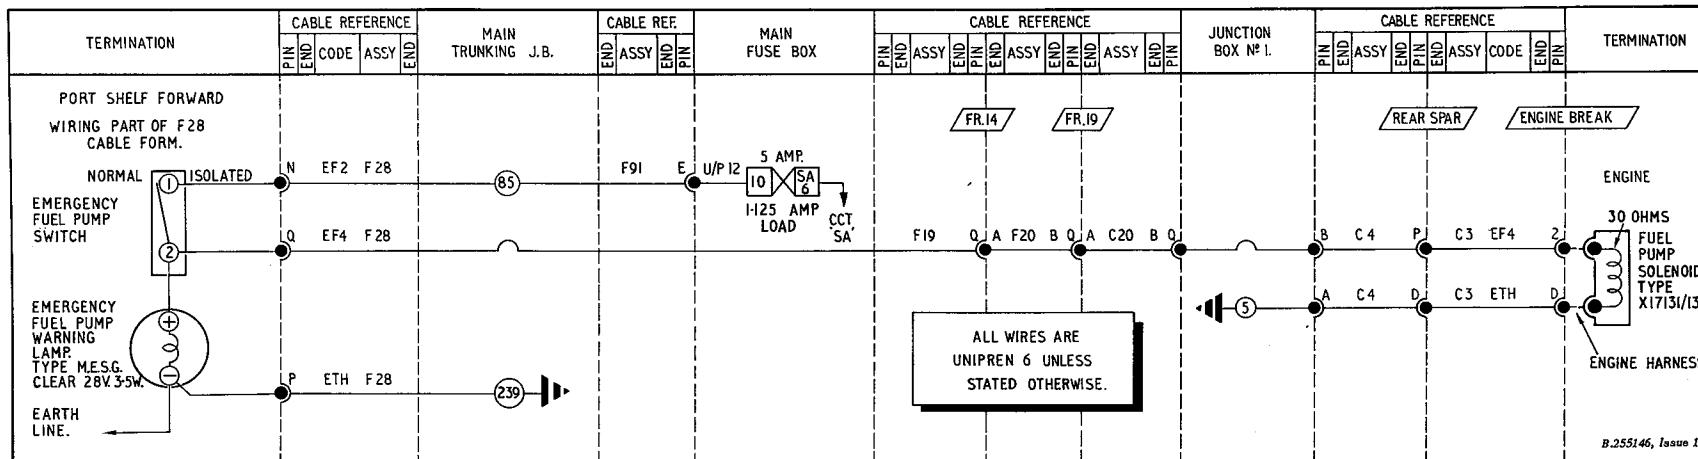

Fig. 1. Emergency fuel pump
3. The circuit is supplied from the engine starter master switch and is operative immediately this switch is placed in the ON position. The operation of the circuit will be apparent once reference is made to the diagram given in fig.1.